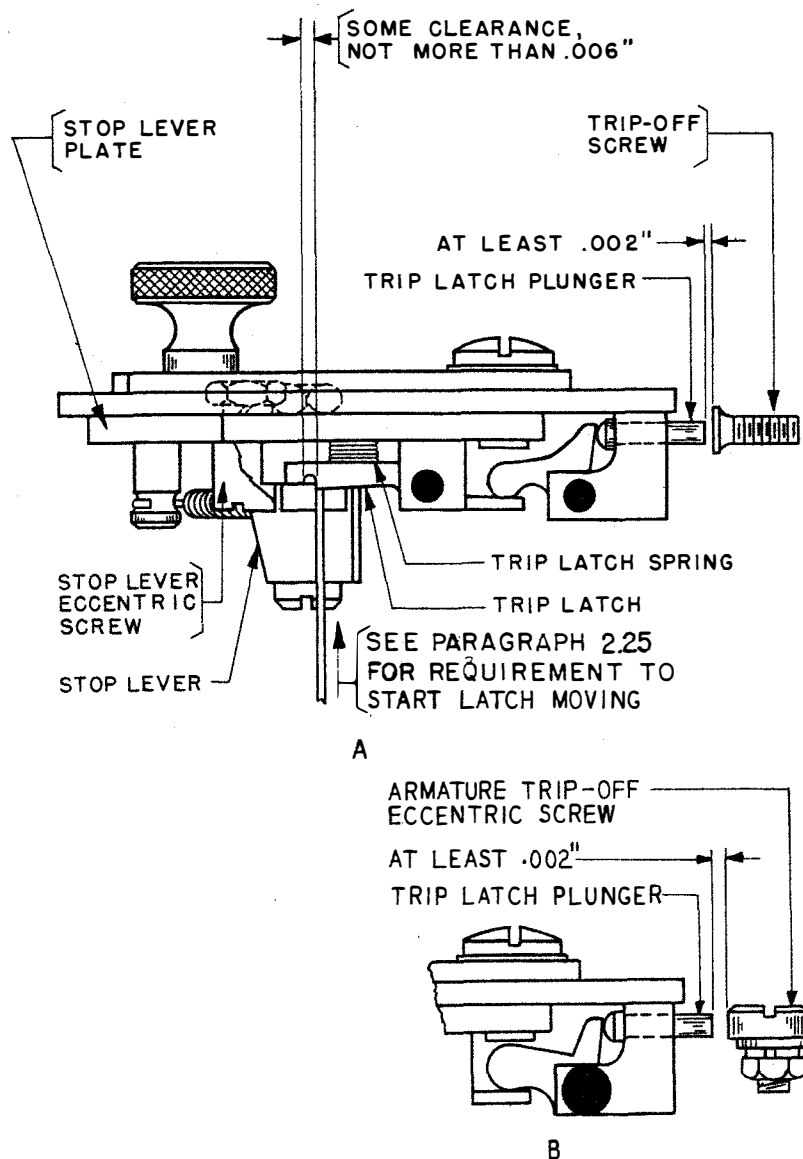

Figure 22
2.26 The Triplatch Spring: Compression, measured when the range finder is horizontal should be: (See Figure 22.)
2.27 Stoplever should have some clearance, not more than 0.006 inch, as indicated in Figure 22, from the latching surface of the triplatch when the stoplever is resting against the stoplever eccentric screw.
2.29 Range-finder Positioning Link: Stoplever (For machines having the range scale equipped with the TP119629 positioning link, not shown in Figure 22) should overtravel the latching surface of the triplatch at least half but not more than the width of the stoplever, with the
selector-magnet armature in the spacing position and the selector camsleeve rotated until the stoparm moves the stoplever to its maximum travel beyond the step of the triplatch. This should be checked with the range indicator set in turn at 0, 60, and 120 on the range scale. In checking at 120 it probably will be necessary to operate the triplatch manually in order to release the camsleeve assembly. See Figure 22 for identification of parts.